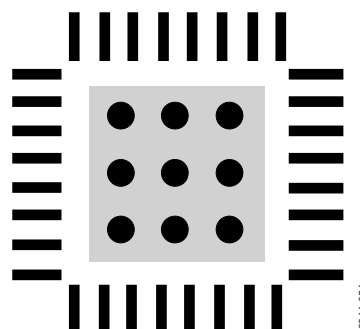

Figure 58. Exposed Pad Layout Example, Top View
- Vias should be placed to connect all layers of copper, allowing for efficient heat and energy conductivity. For an example, see Figure 58, which has nine vias arranged in a 3 inch  $\times$  3 inch grid in the pad area.